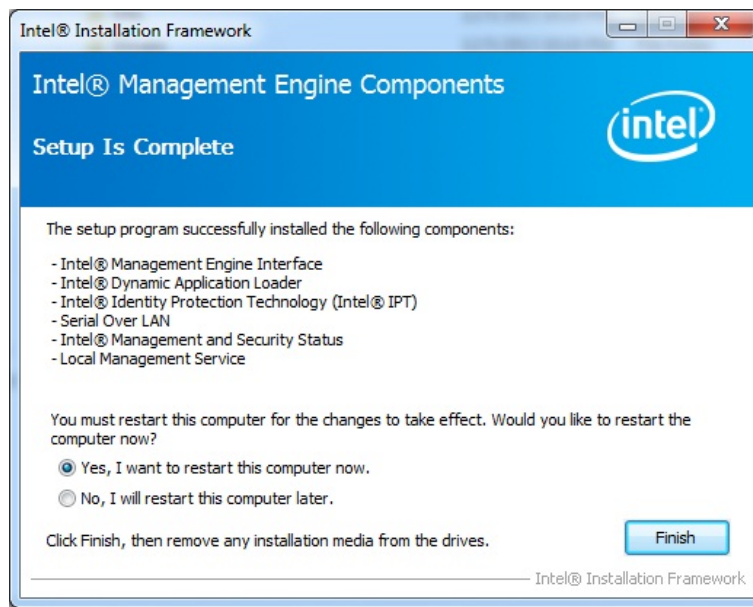

Figure 6-30: Intel® ME Driver Installation Finish Screen
Step 11: The **Finish** screen in Figure 6-30 appears.